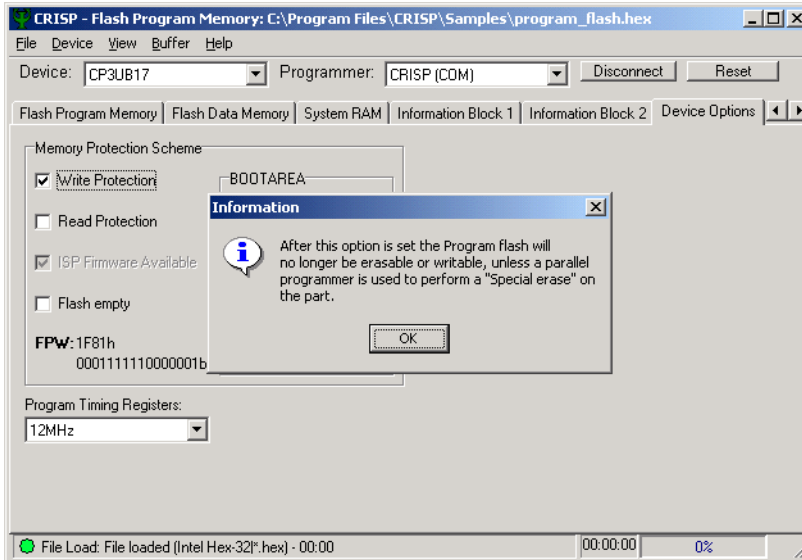

Figure 6-7. Write Protection Warning
3. **Write Protection Warning.** Some settings are irreversible and may make the device permanently unusable. For example, write protection cannot be disabled after it is enabled (unless a special programmer is used). In Figure 6-7, selecting the Write Protection setting has opened a pop-up dialog box to warn the user.